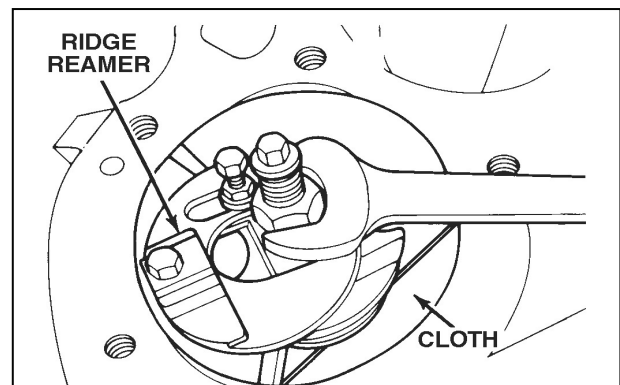

Figure 12-18 Removing Cylinder Ridge
Figures 12-18 and 12-19
- C. Perform the cutting operation with J 24270 (figure 12-18).